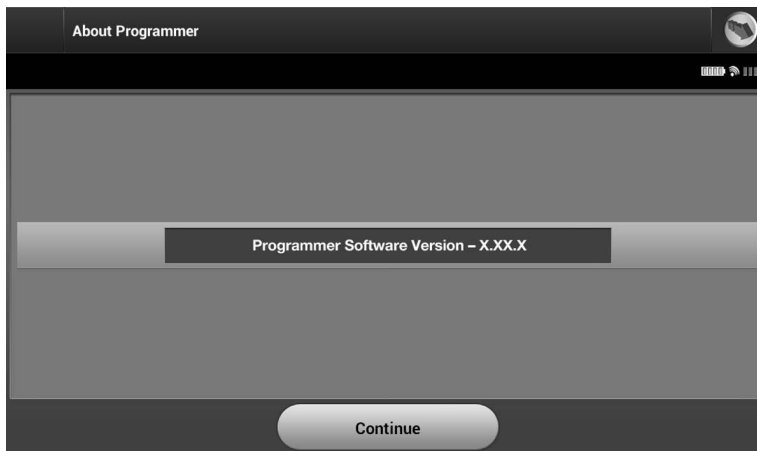

Figure 13: *Programmer Software Version information screen*
1. Select About Programmer on the Programmer Settings screen. The Programmer Software Version information screen appears (Figure 13).